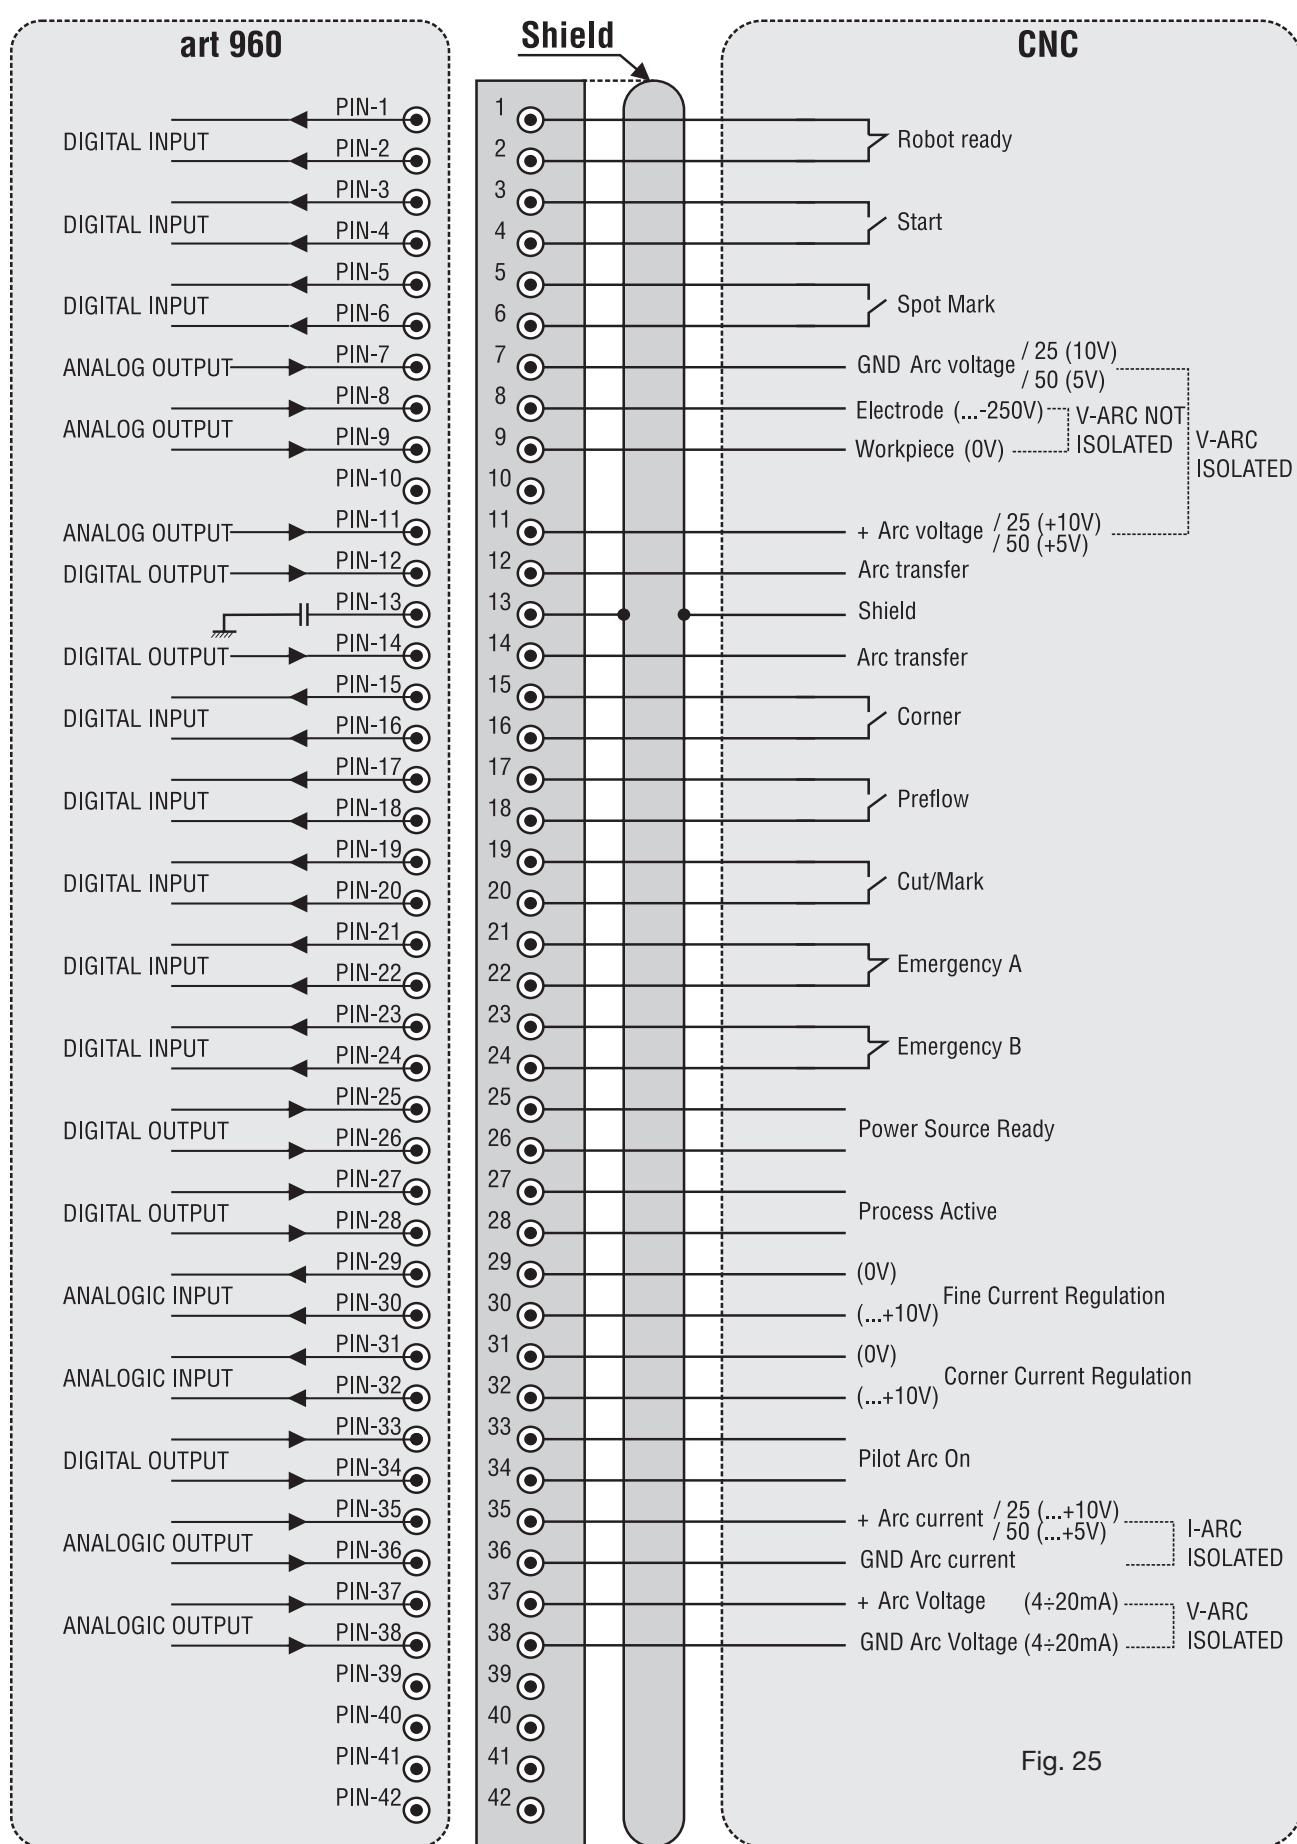

Fig. 25
5.2 OPTIONAL KIT (ART. 425) FOR PANTOGRAPH CONNECTION (FIG. 25)